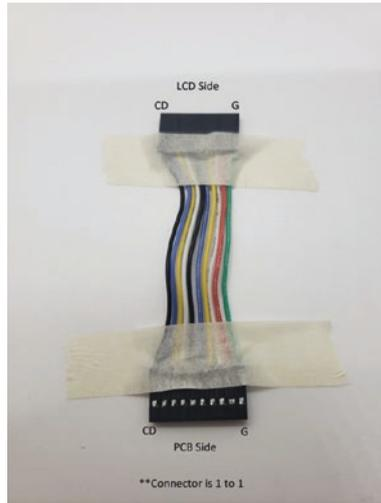

Figure 8-54. LCD cable
10. Create the wire harness for the LCD using 2 x 10 position dupont headers and 20 female dupont crimps. You will also need 10 x 3in 24 AWG stranded wire. See Figure 8-54. Use the same method to create the wiring harness as you did in the previous step.